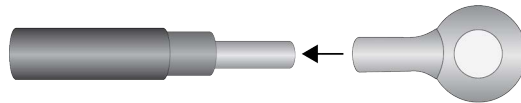

Figure 38. Sliding the Ring Terminal Lug on the Grounding Wire
3. Slide the ring terminal lug over the stripped wire on the grounding wire. Refer to Figure 38.